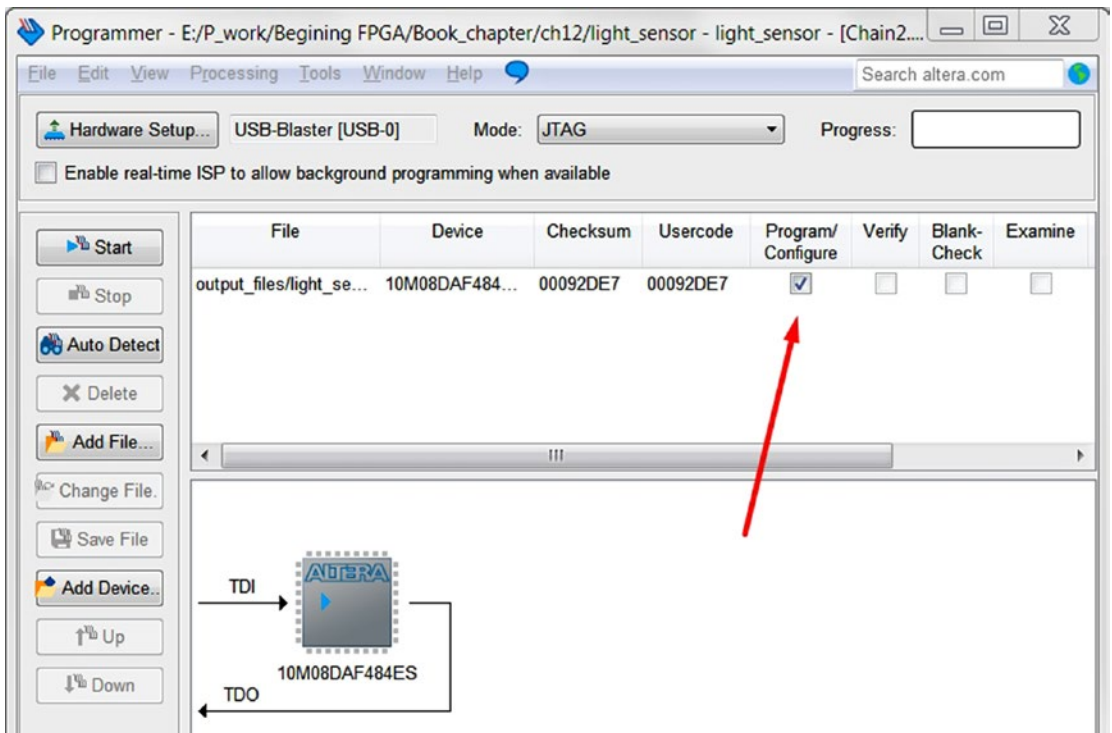

Figure 12-47. Start programming the design
Step 3: Make sure the Program/Configure check box is ticked and click the **Start** button (Figure 12-47). The Progress bar will go to 100% and turn green. This means the programming process has finished. Now you should try to use the laser pointer to point to the photo resistor and then put something in between to check out the design.